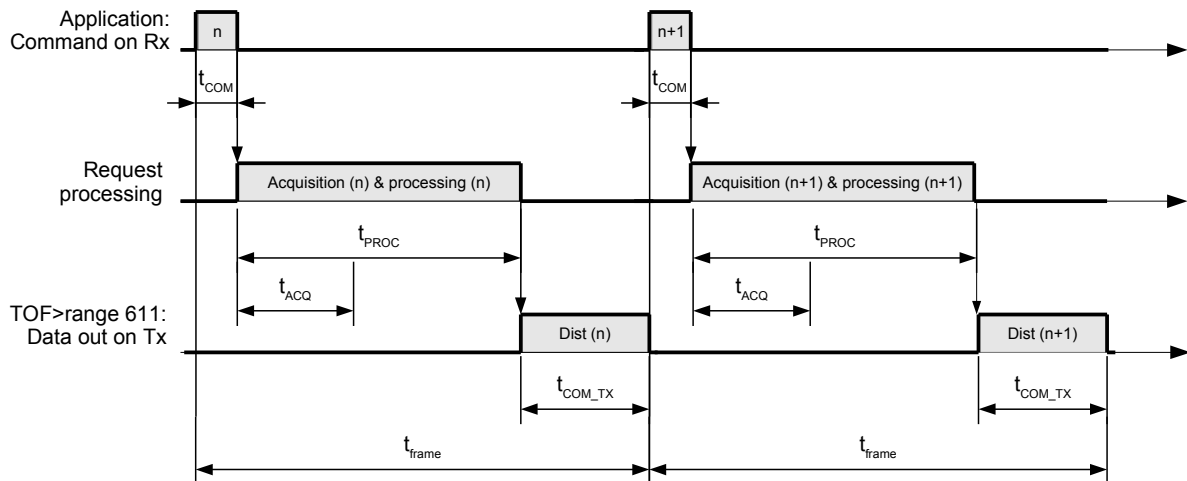

Figure 9: Timing of the distance measurements
**Response time** Refer to chapter 6.2, Timing. Refer to Figure 9 for the timing diagram.